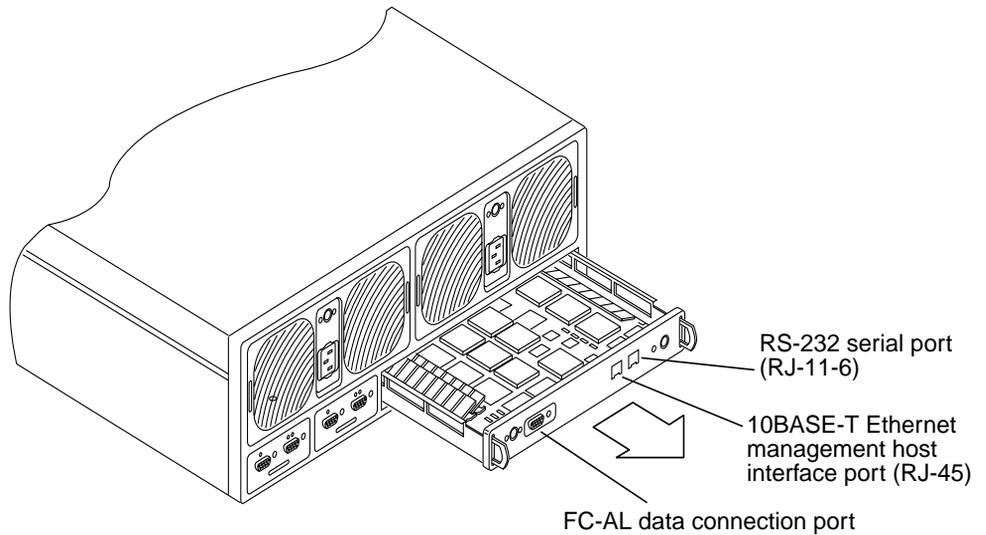

FIGURE 1-1 Controller Card and Ports
- FIGURE 1-1 Controller Card and Ports 3
FIGURE 1-1 shows the controller card and its ports.